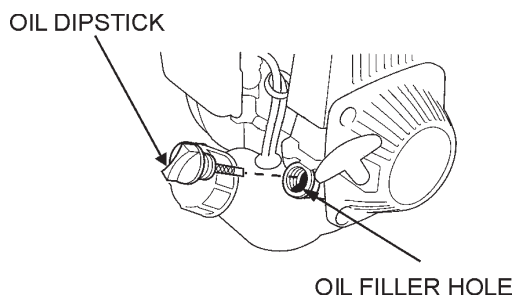

Figure 9. Engine Oil Dipstick/Oil Filler Hole
2. Check the engine oil level by unscrewing the engine oil dip stick (Figure 9) from its holder.